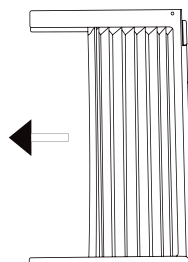

Fig. 1
A. Place unit on floor, a bench or a table. Hold the accordion panel in one hand and gently pull back the centre to free the open end. See Fig. 1.